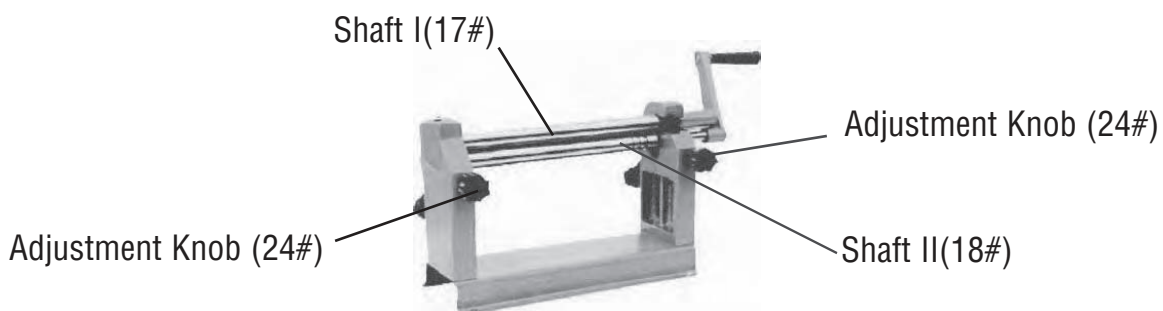

Figure 1
1. To increase the gap between Shaft I(17#) and Shaft II(18#) to allow for varying thickness of materials, screw out the Adjustment Knob(24#). To decrease the gap, screw it in. Make sure to adjust both Knobs an equal amount. See Figure 1.